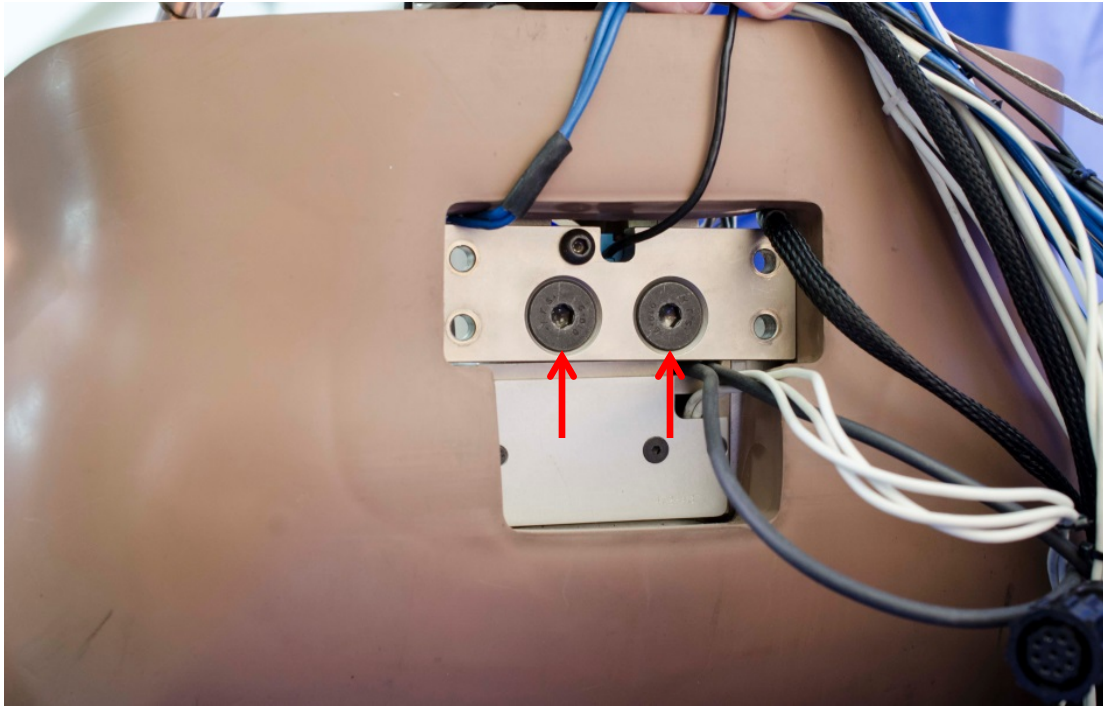

Figure 9-27. Secure rear attachment plate to pelvis
- 9.2.3.1 Attach the Rear Attachment Plate (472-4761) to the rear of the pelvis/lumbar mounting block using two M10 x 1.5 x 25mm FHCS (Figure 9-27). The bottom surface of the plate should be flush with the bottom surface of the block.